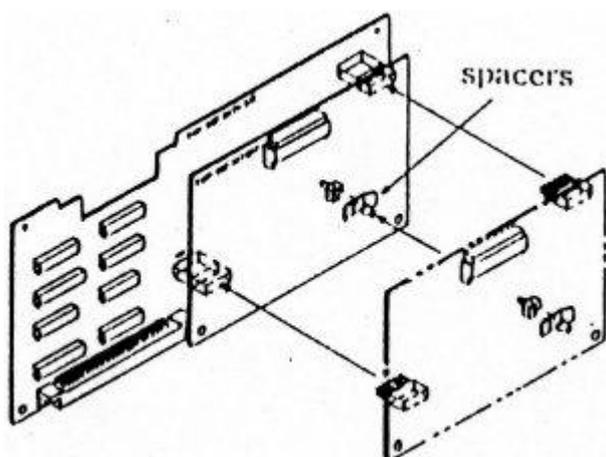

Fig.1
- (3) Using J45 (10 Pins) and J46 (12 Pins) on the data I/O unit and P45 and P46 on the interface unit, connect these two PCB's. In doing so, do not forget to fix pacers (plastic).(See Fig. 1.).